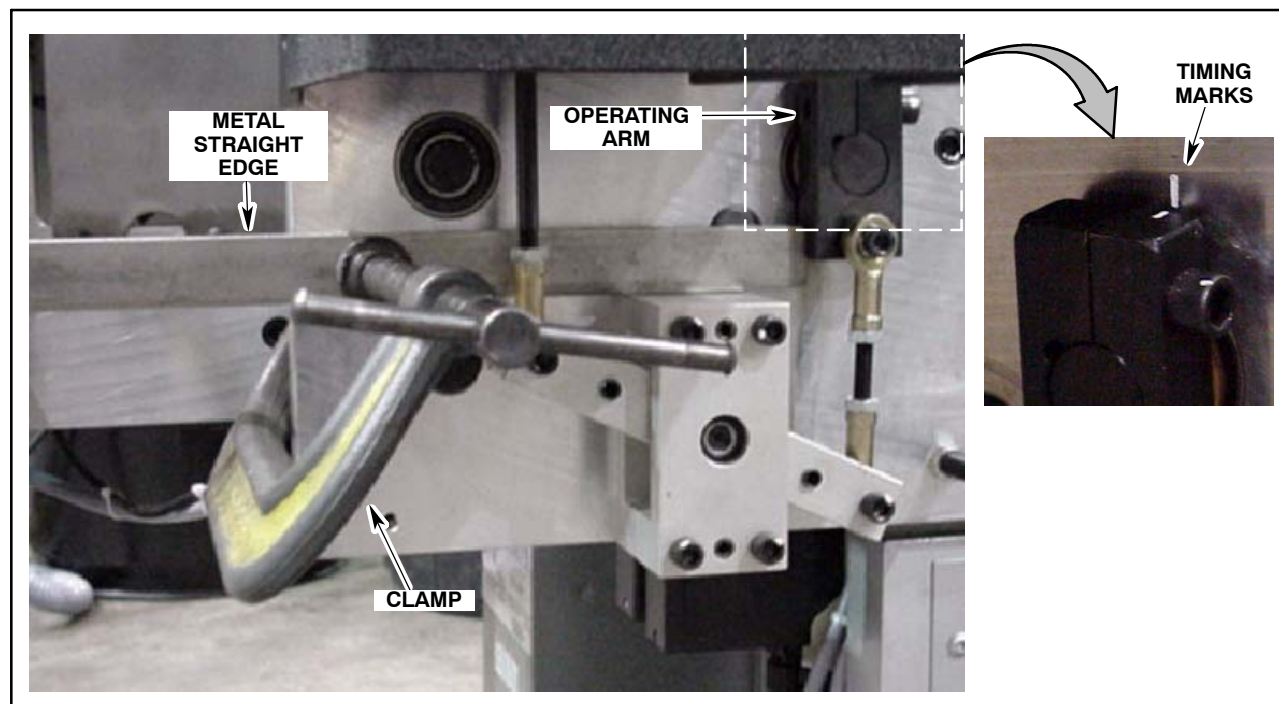

Fig. 4-13. Cut Operation Arm
**Step: 2.** If rectangular block moves out of position, secure with long flat file to left of block and clamp file to frame of machine. (See Fig. 4-13. )